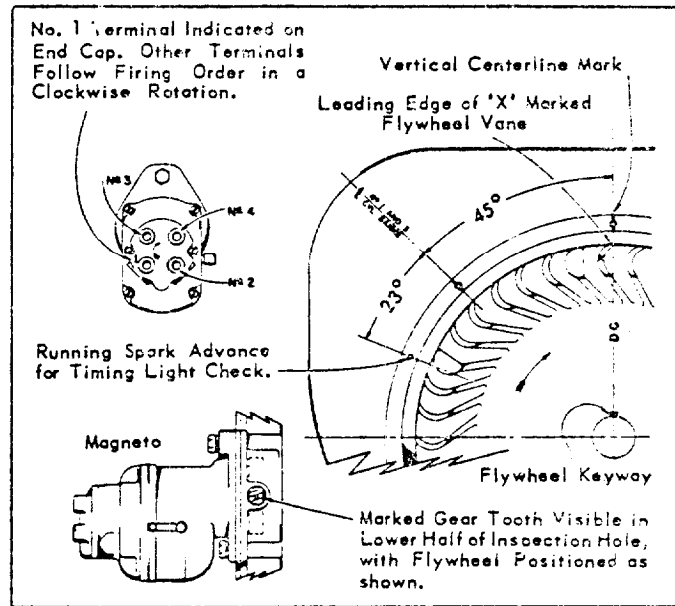

Fig. B-16
3. With No. 1 piston on compression stroke turn engine over past top dead center, until the **leading edge** of the 'X' marked vane on the flywheel is in line with the vertical centerline mark on the shroud, as shown in Fig. B-16. Leave flywheel in this position (flywheel keyway will be on top).
hole in gear cover. See *Magneto Timing Diagram, Fig. B-16*. Securely tighten nut and capscrew for mounting magneto.
The running spark advance is 23°. To check timing with a **neon light**, the advance is indicated by a hole on the flywheel shroud, 23° before **centerline** of the No. 1 and 3 cylinders. See Fig. B-16.